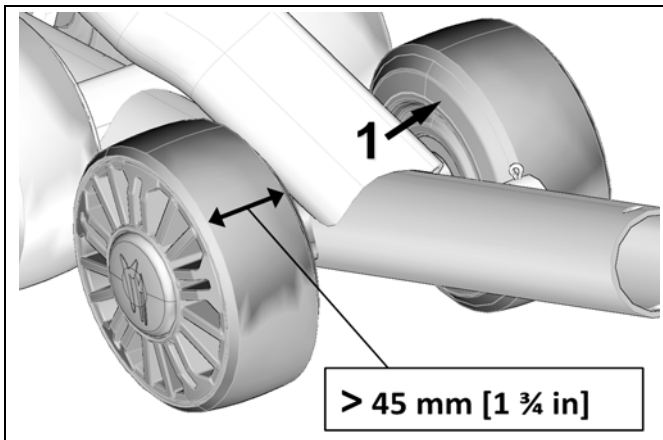

Figure 43
Verify wear on wheels especially on the interior guidance strip (Figure 43). The wheel must be replaced if the inner surface (1) is perforated or when the wheel's rolling band narrows to less than 45 mm wide. A wheel that is excessively worn will not offer enough support to guide the track.